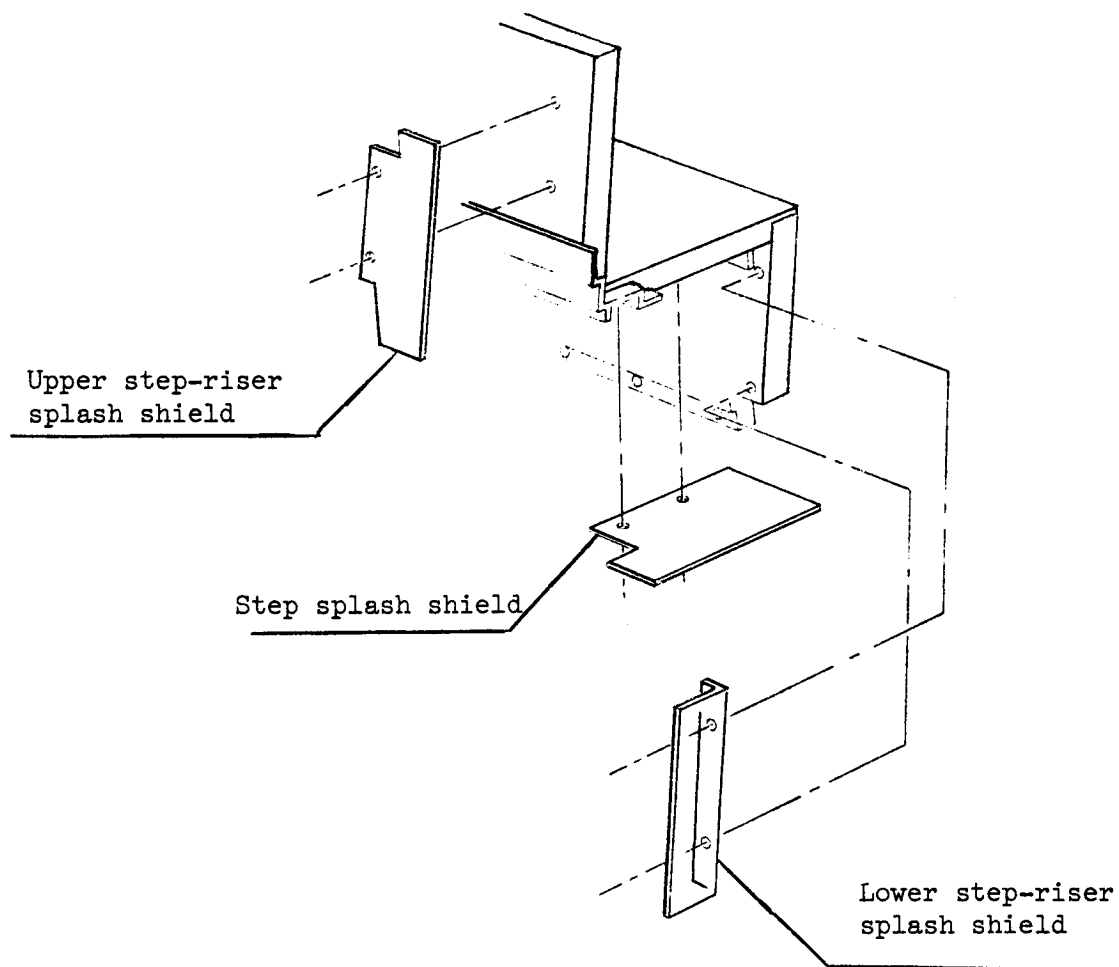

FIGURE 1
2. Remove lower step-riser splash shield as shown in figure 1.